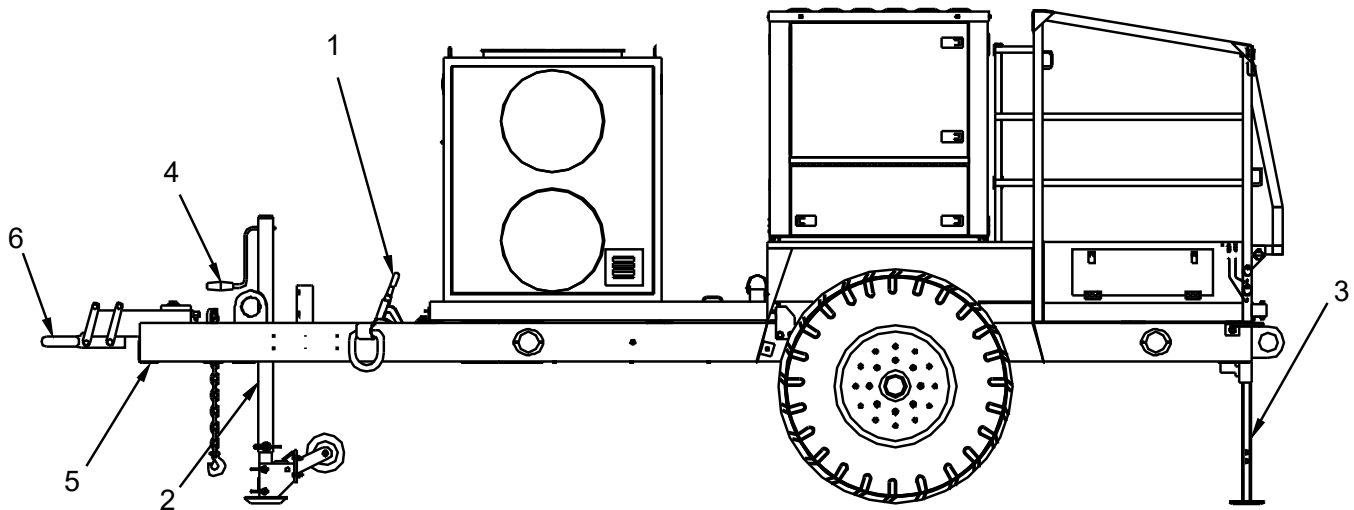
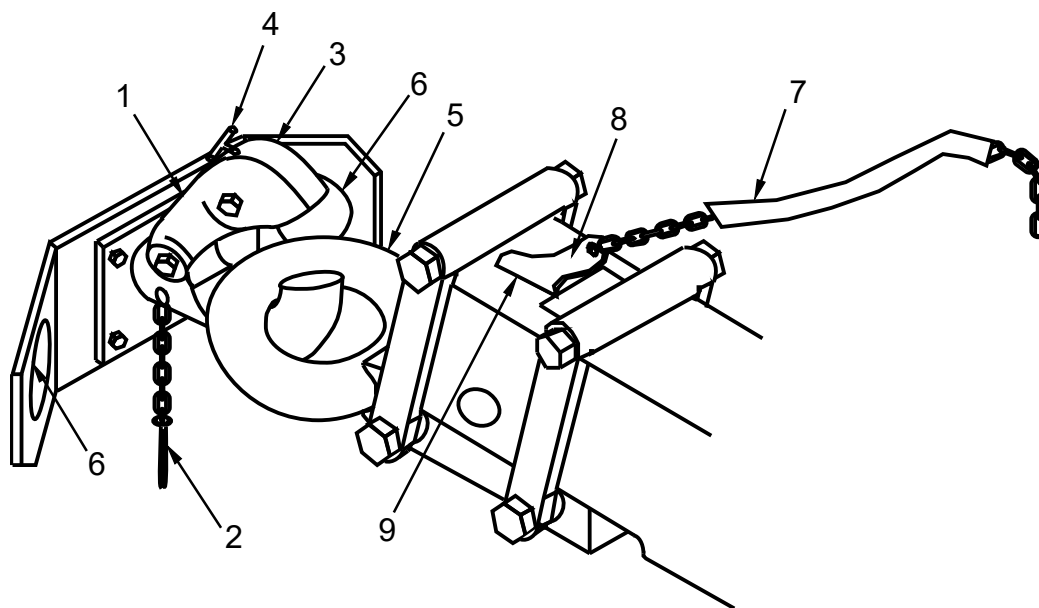

Figure 7. Trailer Levelled and Secured.
Figure 8. Attach Trailer to Tow Vehicle.
3. Apply both handbrakes (Figure 7, Item 1).
Ensure weight of trailer is on tongue jack post (Figure 7, Item 2) before raising rear stabilizer legs. Failure to follow this warning may cause trailer to tip, resulting in serious injury to personnel or damage to equipment.
4. Fully retract and secure both rear stabilizer legs (Figure 7, Item 3).
5. Rotate tongue jack hand crank (Figure 7, Item 4) to raise trailer tongue (Figure 7, Item 6) until lunette ring (Figure 7, Item 6) is higher than towing vehicle pintle hook.
6. Remove safety pin (Figure 8, Item 2) from pintle hitch (Figure 8, Item 1). Open pintle hitch (Figure 8, Item 1) by pulling up on locking latch (Figure 8, Item 4).
7. Back up towing vehicle in front of lunette ring (Figure 8, Item 5).
8. Adjust height of lunette ring (Figure 8, Item 5) by rotating tongue jack hand crank (Figure 7, Item 4).
10. Re-insert safety pin (Figure 8, Item 2) into pintle hitch (Figure 8, Item 1).
11. Cross two trailer safety chains under trailer tongue and hook to towing vehicle eyebolts (Figure 8, Item 6). If safety chains are too long, they can be twisted to be shortened. It is recommended that wire be used across hook openings to prevent accidental unhooking.
12. Attach safety breakaway cable (Figure 8, Item 7) to towing vehicle. Ensure there is enough slack in the cable to allow trailer to make full turns.
13. Ensure breakaway lever (Figure 8, Item 8) is pushed all the way back toward trailer and that breakaway lever is not engaged in leaf spring (Figure 8, Item 9).